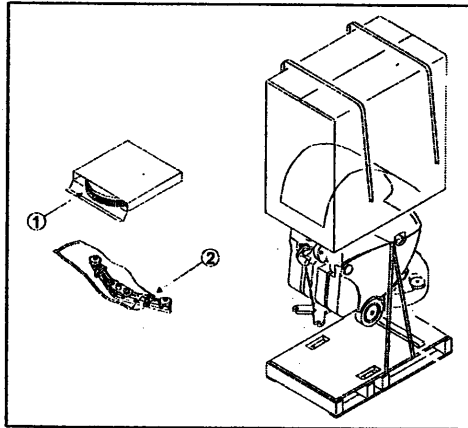

Fig. 3
- unwrap the brush (fig. 3, ref. 1) and the squeegee (fig. 3, ref. 2) from their packing;